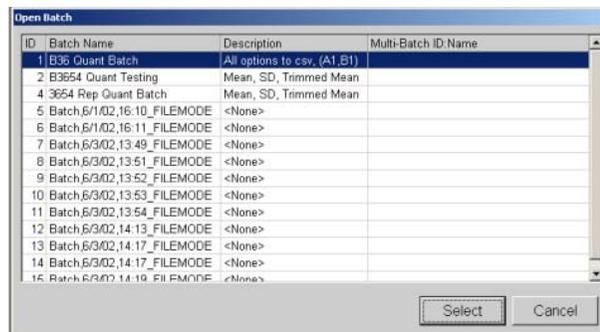

Figure 60 Open Batch Dialog Box—Select Batch
1. On the **File** menu, , click **Export Batch Data**. The **Open Batch** dialog box opens. See Figure 60.